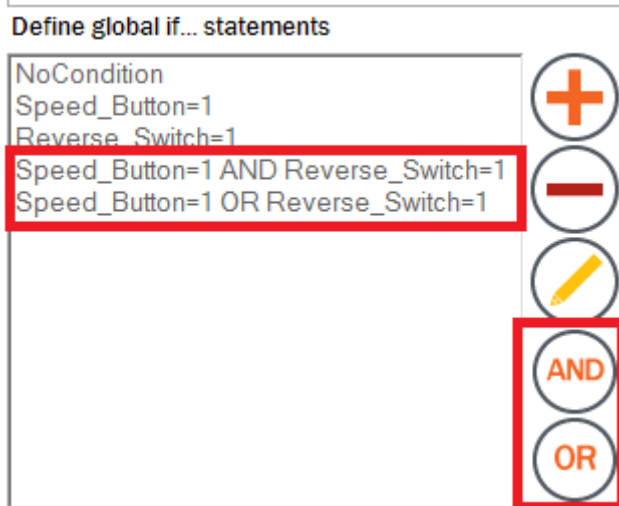

Figure 183. Complex conditions
- Complex conditions can be created by selecting two individual conditions and combining them by clicking either the "And" or "Or" button, as shown in Figure 183.